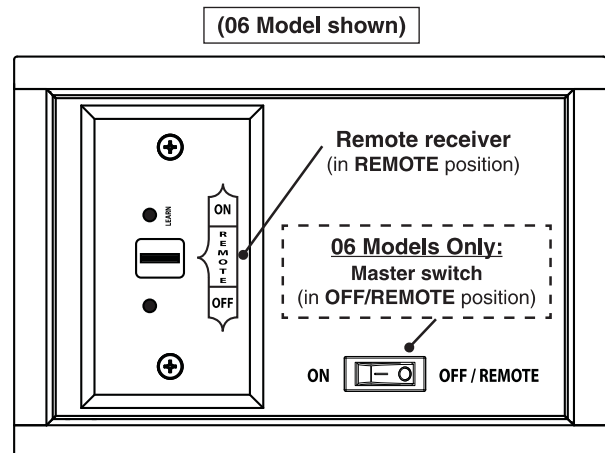

Fig. 35-1 Control panel detail
1. **06 MODELS ONLY:** Ensure the master switch is in the **OFF/REMOTE** position (see Fig. 35-1).
2. Locate the 3-position switch on the remote receiver (see Fig. 35-1), and slide the switch to the **REMOTE** position.